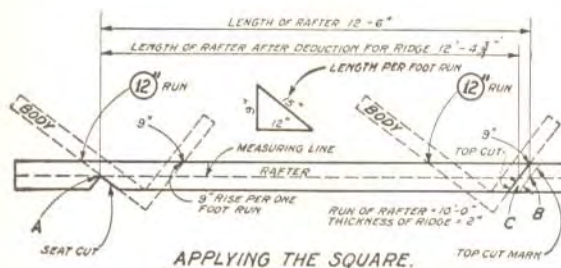

FIG. 30
Example. A common rafter is 12 ft. 6 inches, the rise per foot run being 9 inches. Obtain the top and bottom cuts. Fig. 30.
51. DEDUCTION FROM HIP OR VALLEY RAFTER FOR RIDGE. The deduction for the ridge is measured the same as for the common rafter, Fig. 30, page 27, except that half the diagonal (45°) thickness of the ridge must be used.
The deduction for half the thickness of the ridge must be determined and measured the same as for the common rafters, Fig. 30, page 27, except that half the diagonal (45°) thickness of the ridge must be used.